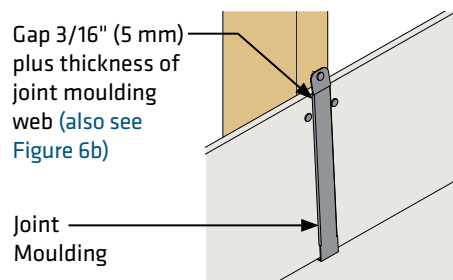

Figure 4c
- If joint moulding option is selected**, add the thickness of the joint moulding web to the butt joint gap retaining a net 3/16 inch (5 mm) space for expansion. (Figure 4c and 6b)